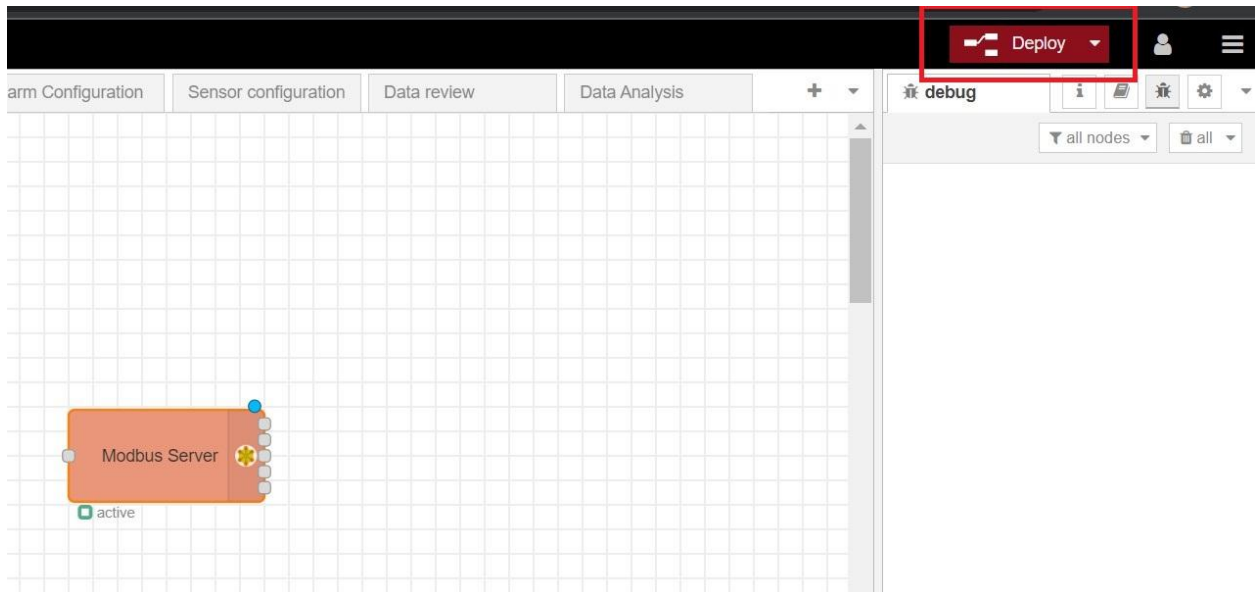

Figure 6 "Deploy" button on the top right corner
Step 3. Deploy changes. After the changes, the “deploy” button on the control panel’s top right corner will turn into red color (Figure 6). Please click the “deploy” button to deploy the change to the software. Then the TCP port is updated.